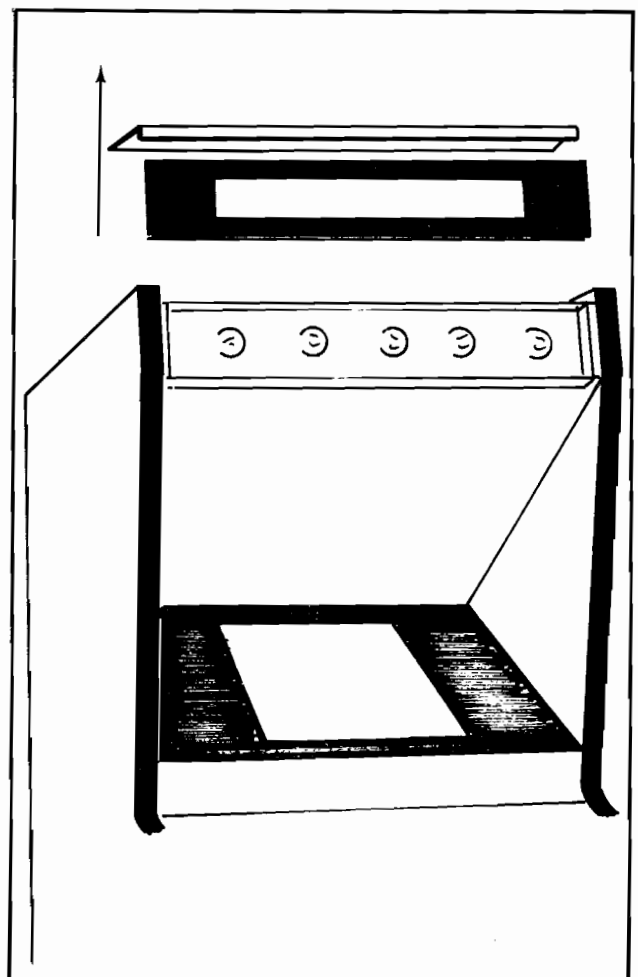

Figure 4-17 Opening Attraction Panel — Mini
**2. MINI MODEL.** See Figure 4-17.